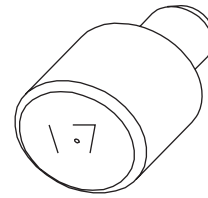

Figure 12-1 Air Meter
3. In the cabinet below (see figure 12-1). Disconnect the mix probe cords from the back of the cabinet.